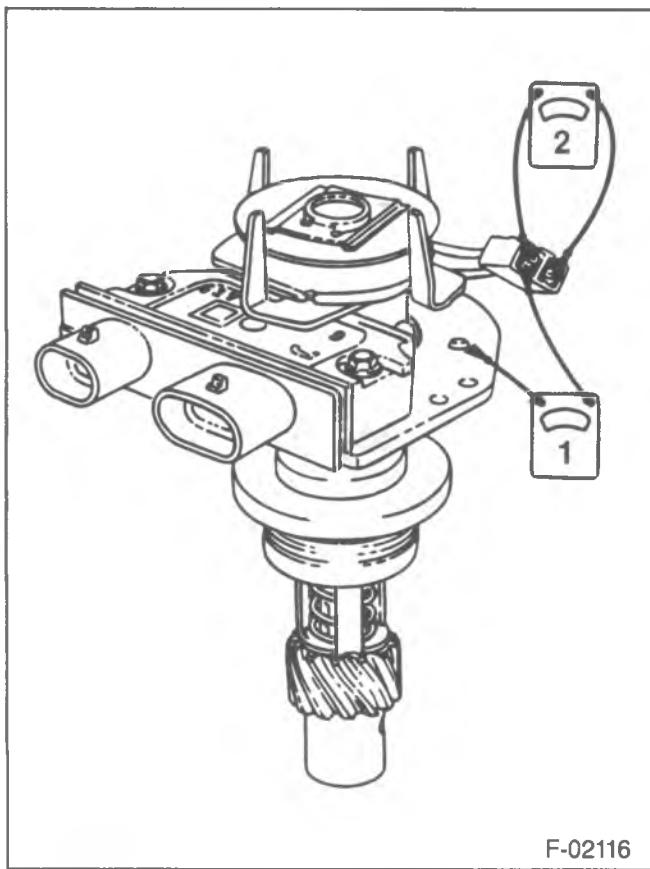

Figure 64—Testing the Pickup Coil
- Connect an ohmmeter to either pickup coil lead and the housing as shown in figure 64, step 1. The reading should be infinite. If not, replace the coil.
- Connect an ohmmeter to both pickup coil leads as shown in figure 64, step 2. Flex the leads by hand at the coil and the connector to locate any intermittent opens. The ohmmeter should read a constant unchanging value in the 500 to 1500 ohm range. If not, replace the coil.